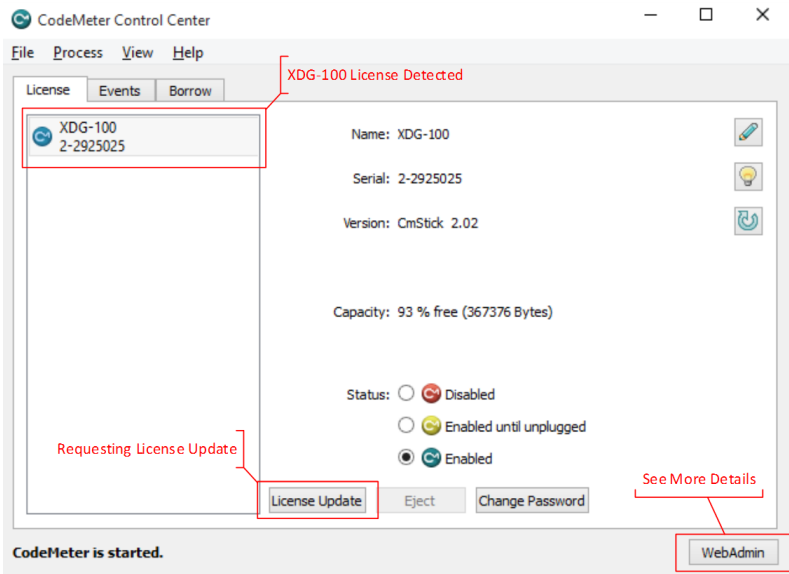

Figure 2.5. CodeMeter Control Center overview for XDG-100 license.
3. Find the XDG-100 license listed in CodeMeter Control Center (See *Figure 2.5, "CodeMeter Control Center overview for XDG-100 license."*.)
3. Find the XDG-100 license listed in CodeMeter Control Center (See *Figure 2.5, “CodeMeter Control Center overview for XDG-100 license.”*.)